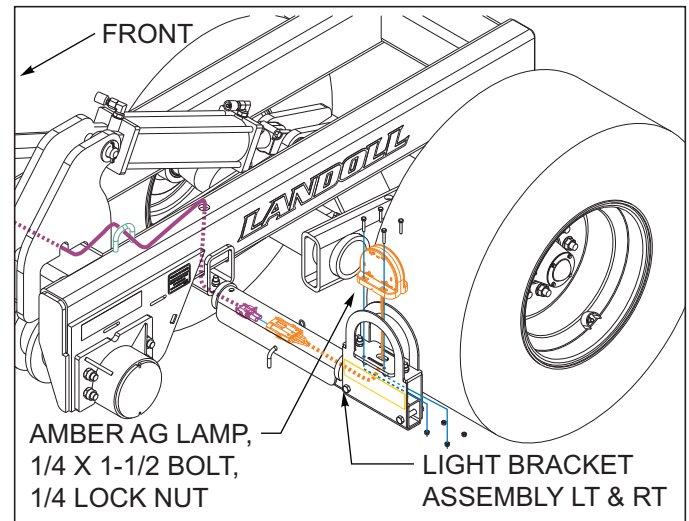

Figure 3-35: Amber AG Lamp Installation
- Attach the amber ag lamps to the light bracket assembly, LT and RT using 1/4 x 1-1/2 bolts, 1/4 lock nuts *See Figure 3-35*.